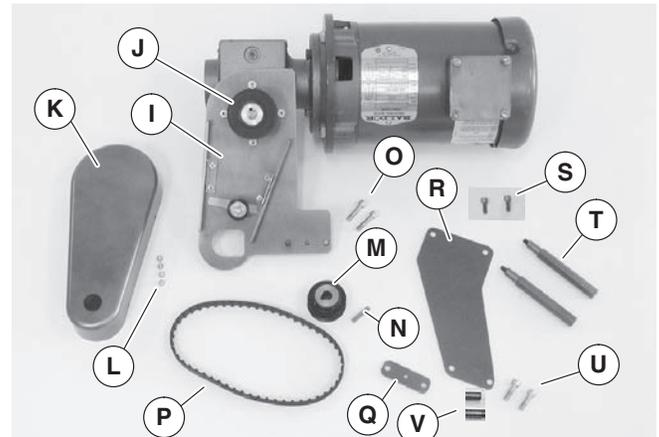

Figure 2
1. Typical components (Figure 2)
<p>Support Plate Spacer (Figure 2, item Q) required for 2" & 3" wide conveyors only.</p>
<p>4100 conveyors do not include items Q through U of Figure 2.</p>